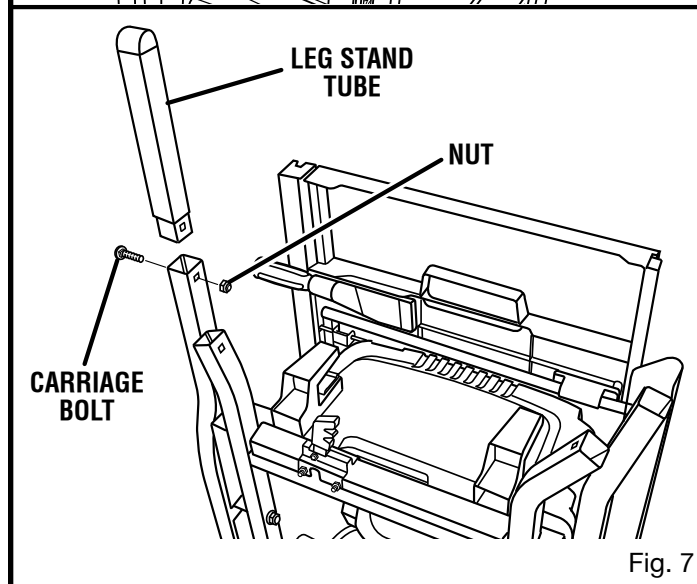

Fig. 7
See Figure 7.
- Stand the table saw on end as shown in figure 7.